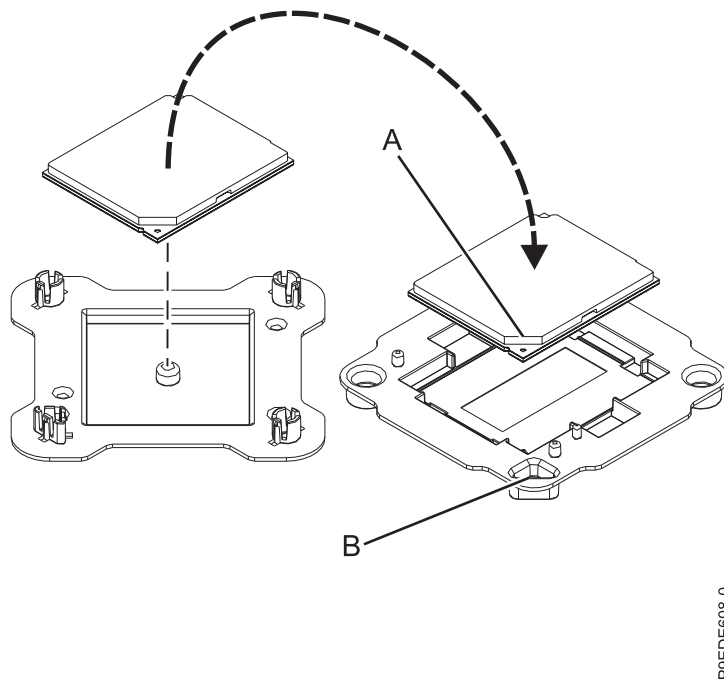

Figure 79. Placing the system processor module into the shipping tray
12. Lightly grip the system processor module that you replaced by the edges and lift it off the shipping cover. Align the beveled corner of the module (A) to the corner of the tray with the triangle (B) and place it in the tray, as shown in Figure 79 on page 69.